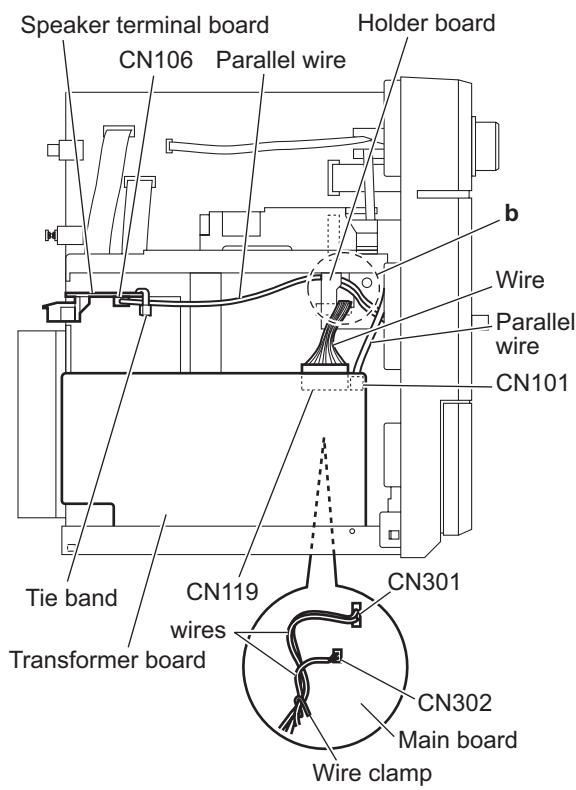

Fig.5
- (4) Remove the wire clamp fixing the wires and disconnect the wires from the connector (CN301, CN302) on the forward side of the main body. (See Fig.5.)
After connecting the wires to the connectors, fix the wires with the wire clamp as before. (See Fig.5.)
- (5) From the left side of the main body, disconnect the parallel wire from the connector CN101 on the transformer board. (See Fig.5.)
- (6) Disconnect the wire from the connector CN119 on the transformer board. (See Fig.5.)
After connecting the wire, pass the wire through the slot **b** of the holder board as before. (See Fig.5.)
- (7) Remove the tie band fixing the wire and disconnect the wire from the connector CN106 on the speaker terminal board. (See Fig.5.)
- After connecting the wire, fix the wire with a new tie band as before. (See Fig.5.)
- After connecting the wire, pass the wire through the slot **b** of the holder board as before. (See Fig.5.)